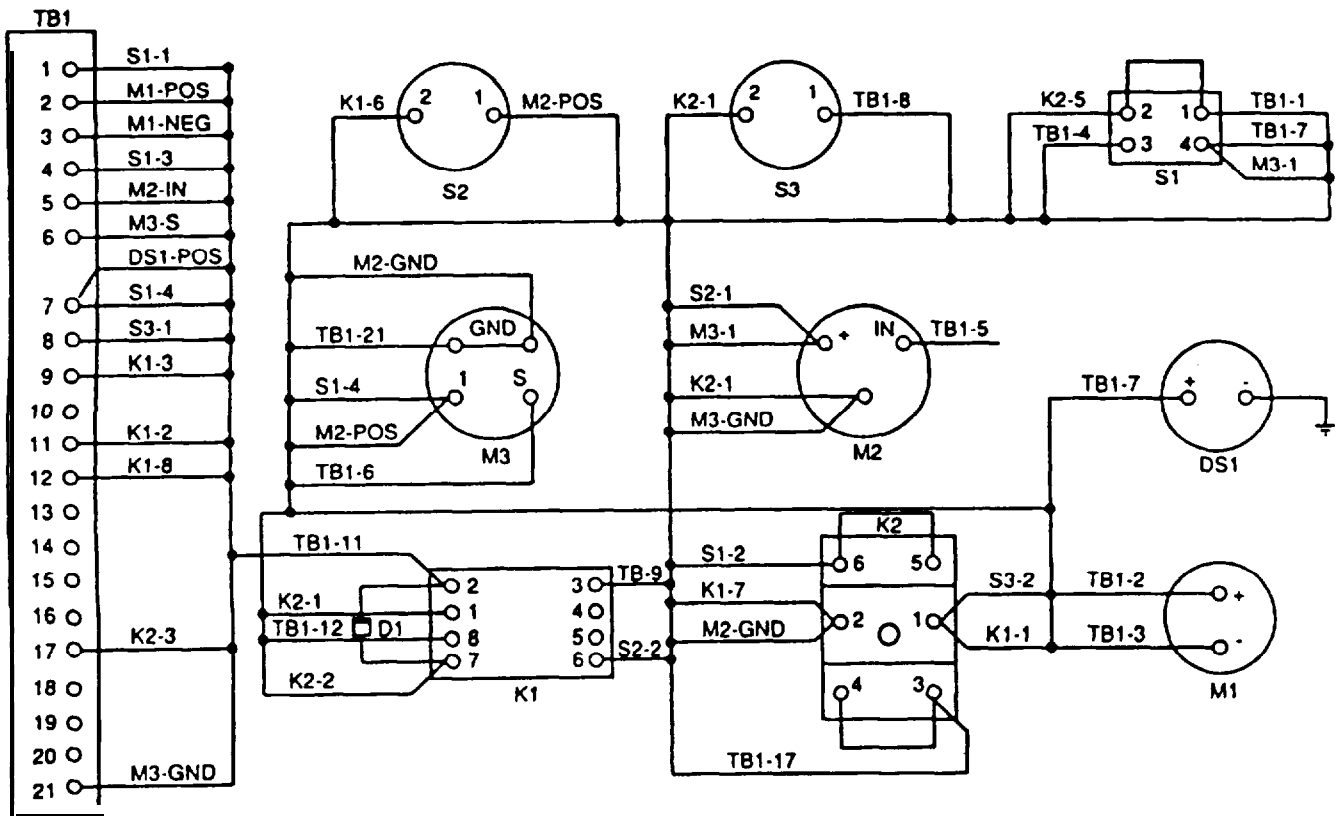

Figure 4-42. Control Panel Wiring Diagram (Models 350 PAW and W-87012).
- i. Using multimeter set for continuity, refer to figure 4-42 and check wiring.